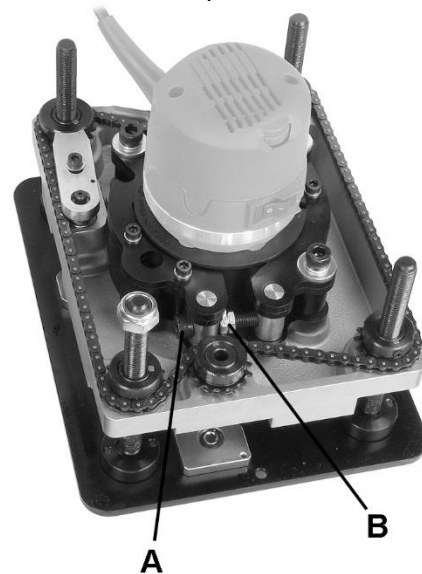

Figure 5-11
3. Slide router (not provided) as far as it will go into router lift collar. If router body diameter is too small, install one of the provided adaptors into collar first, then install router. See Figure 5-11.
5. Loosen two hex nuts (A, Figure 5-11) and tighten screw (B, Figure 5-11) with 8mm hex wrench. Retighten hex nuts to secure setting.